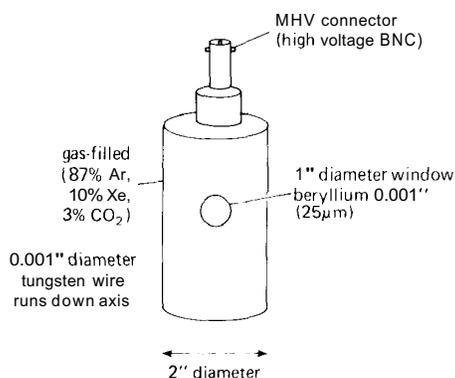

Figure 15.19. Proportional counter.
*Ionization chamber, proportional counter, Geiger counter.* These detectors consist simply of a cylindrical (usually) chamber, typically a few inches in size, with a thin wire running down the center. They are filled with some gas or mixture of gases. There's a thin "window" on one side, made of some material that the desired x rays can penetrate (plastic, beryllium, etc.). The central wire is held at a positive potential and connected to some electronics. Figure 15.19 shows a typical configuration.